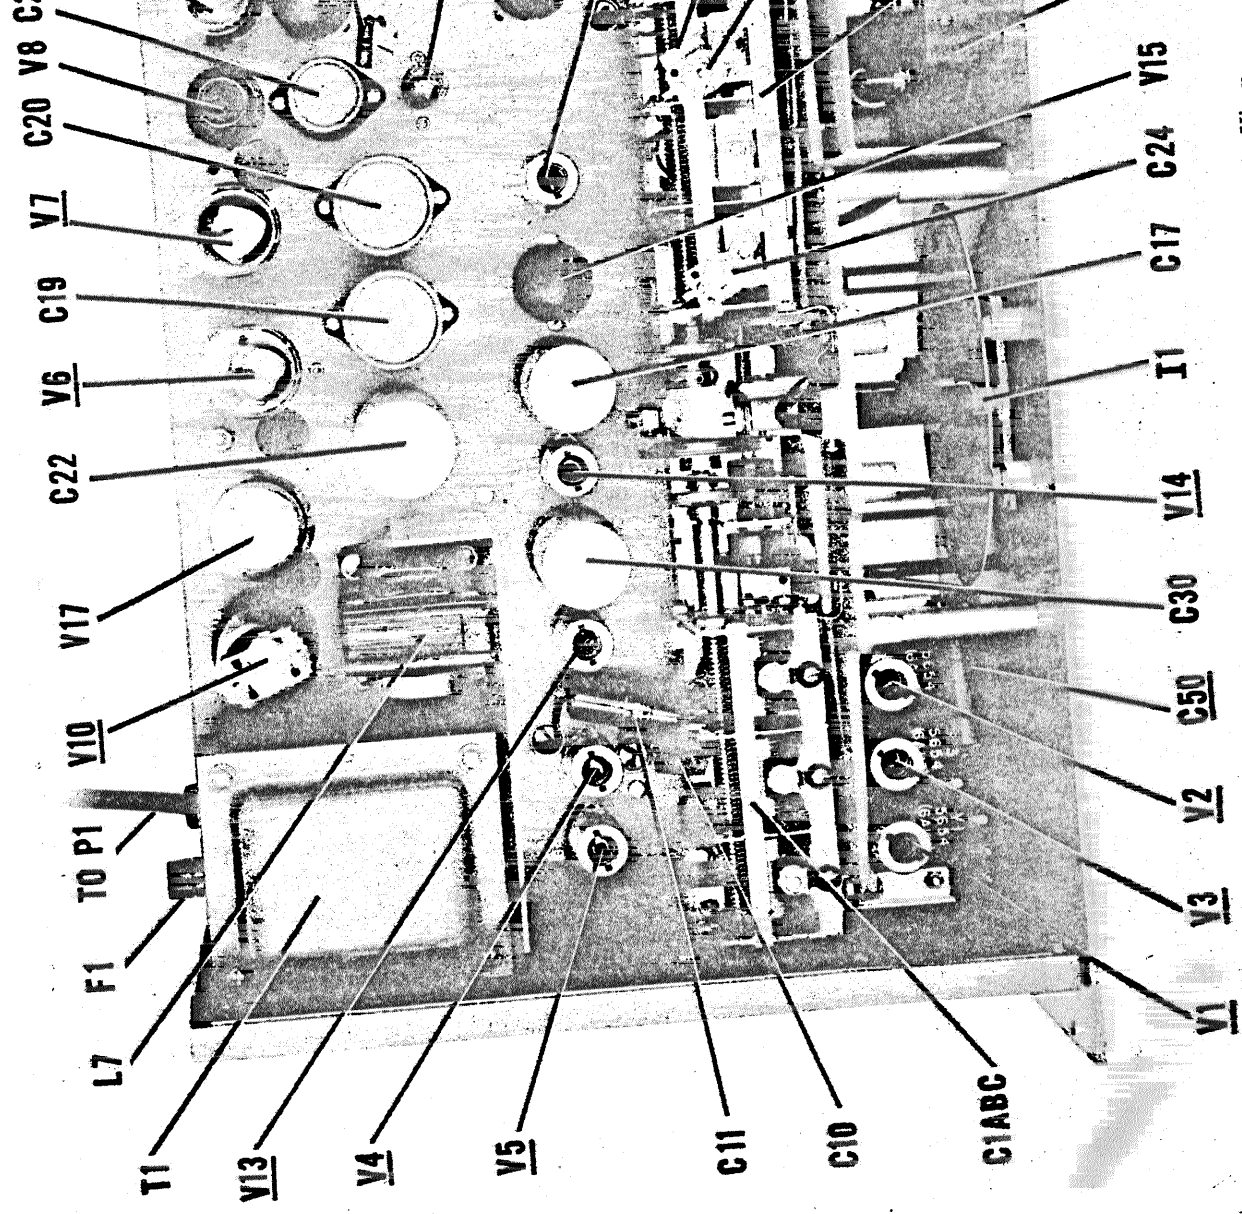

Figure 6 Model 650A Typical Top Chassis View
- 2) Add resistor R91 (6800 ohms $\pm 10\%$, 2 watts, composition) in parallel with R89 which has the same value and rating. See Figure 6.